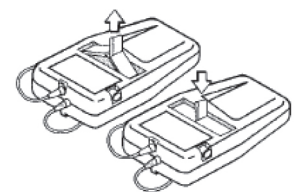

Fig. 4-8
2. Pull up on the black tab in the battery compartment to release the old batteries. (see Figure 4-8)